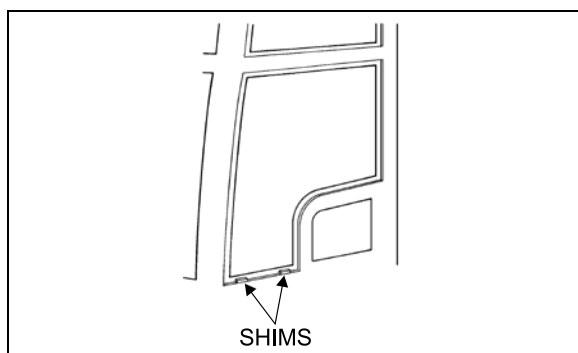

FIGURE 44: ADHESIVE-MOUNTED WINDOW
Use small shims to raise the glass in proper position. Shims can be cut from the tremshield tape (Figure 44).
1. Align the leading edge of the slot on the lower cam follower block with the sash stop. Use the power toggle switch to obtain the correct alignment. (Figure 44)